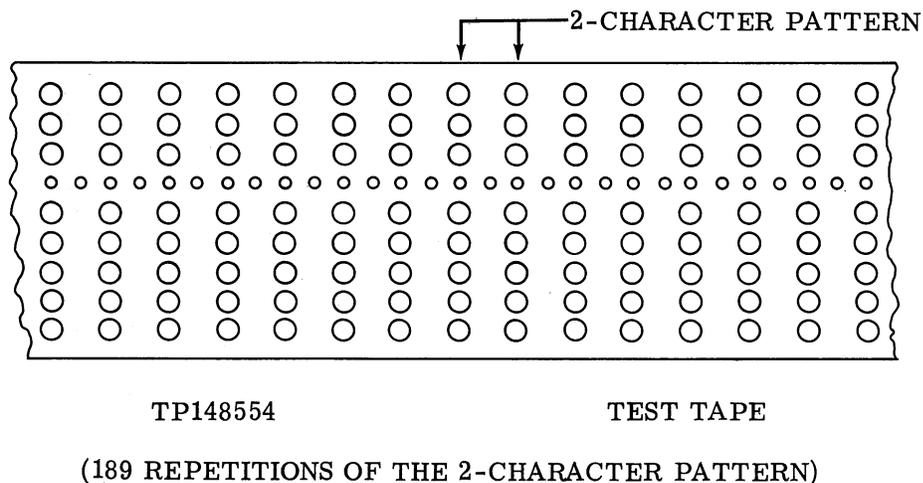

Figure 6 - Recommended Test Tape for Troubleshooting Type 5 Tape Senders
and test tape (Figure 6) for checking the Sender. Sections covering installation indicate the wiring for every type of operation, both with and without extra feature units.
3.42 Place a test tape (Figure 6) in the reader and place the reader control switch in the RUN position.
3.53 Use a good standard test tape (Figure 6), that has been checked with a tape gauge, for all on-line tests.